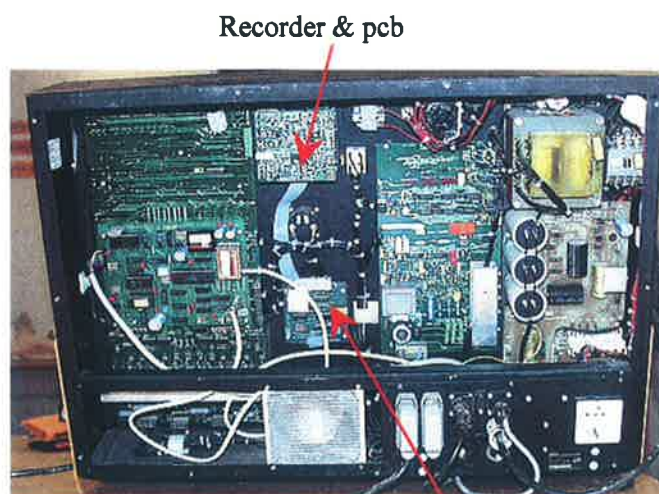

Fig 11
- 27) You can, if you wish, remove the cassette recorder and its pcb and also the Interface pcb, see Fig 11.